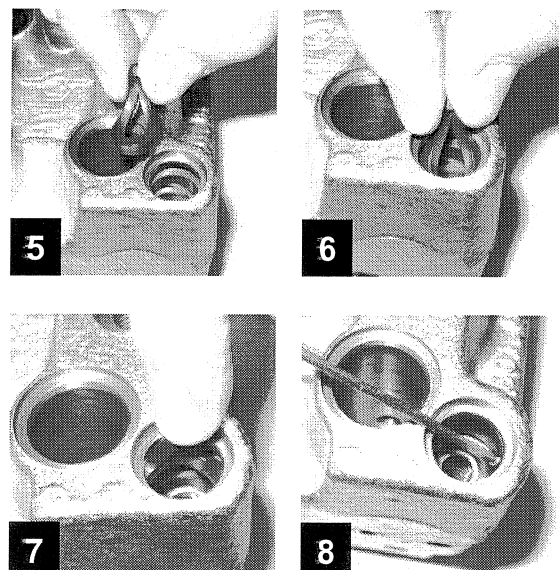

Fig. 33-217
(See Fig. 33-217 No.5)
(See Fig. 33-217 No.6, 7)
- Push the seal against the side using the round head of a small socket wrench. (Fig. 33-217 No.8)